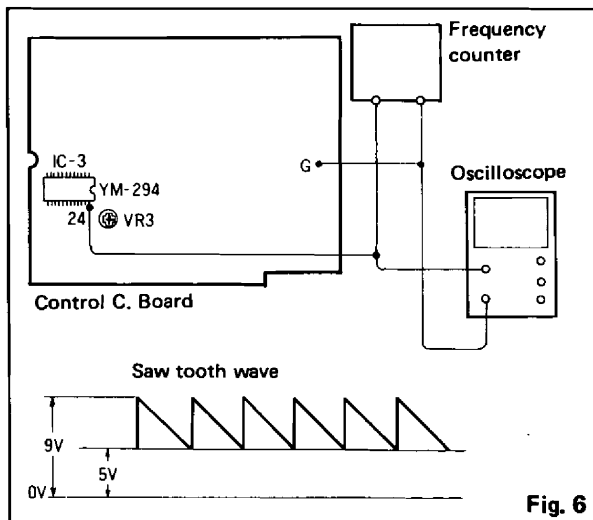

Fig. 6
1. As in Fig. 6, connect a frequency counter and an oscilloscope to the 24th pin of IC3 in order to confirm that the frequency is at $128\text{Hz} \pm 1\text{Hz}$, and that the waveform is a saw tooth wave (regard these as standard conditions).